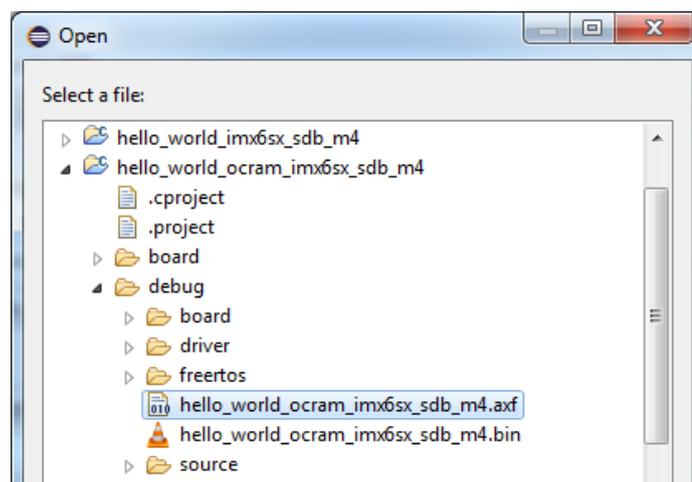

Figure 12 - Application to download
6. Click on the “Files” tab and then the “Workspace” button. Select the `axf` file in the “debug” folder as shown in Figure 12.